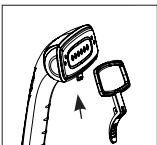

Figure 16
- The crease tool snaps onto the steam nozzle by aligning the crease tool slot with the steam nozzle tab (Figure 16).